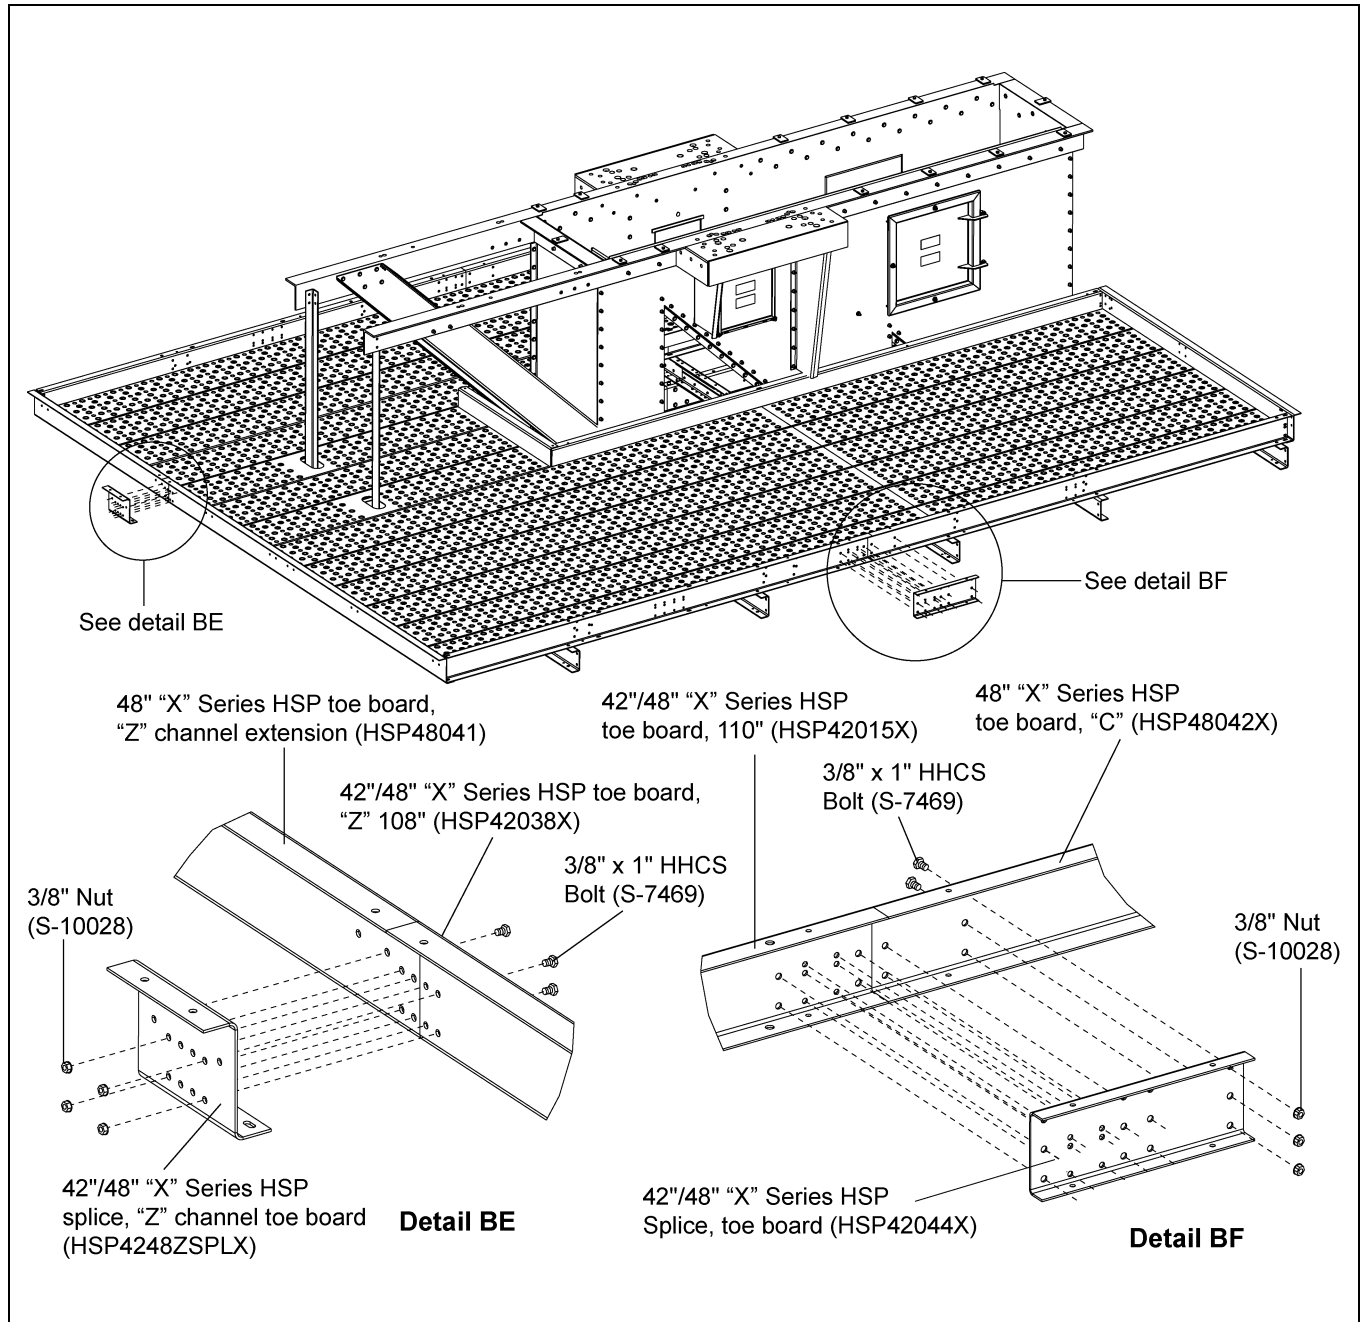

Figure 90
2. Fasten each set together using twenty (20) 3/8" x 1" HHCS bolts (S-7469) and 3/8" nuts (S-10028). (See Figure 90.)
3. Place ends of "Z" toe boards (HSP42066X and HSP42038X) together and line up bolt holes with holes in "Z" splice plate (HSP4248ZSPLX). Fasten each set together using twelve (12) 3/8" x 1" HHCS bolts (S-7469) and 3/8" nuts (S-10028). (See Figure 90.)